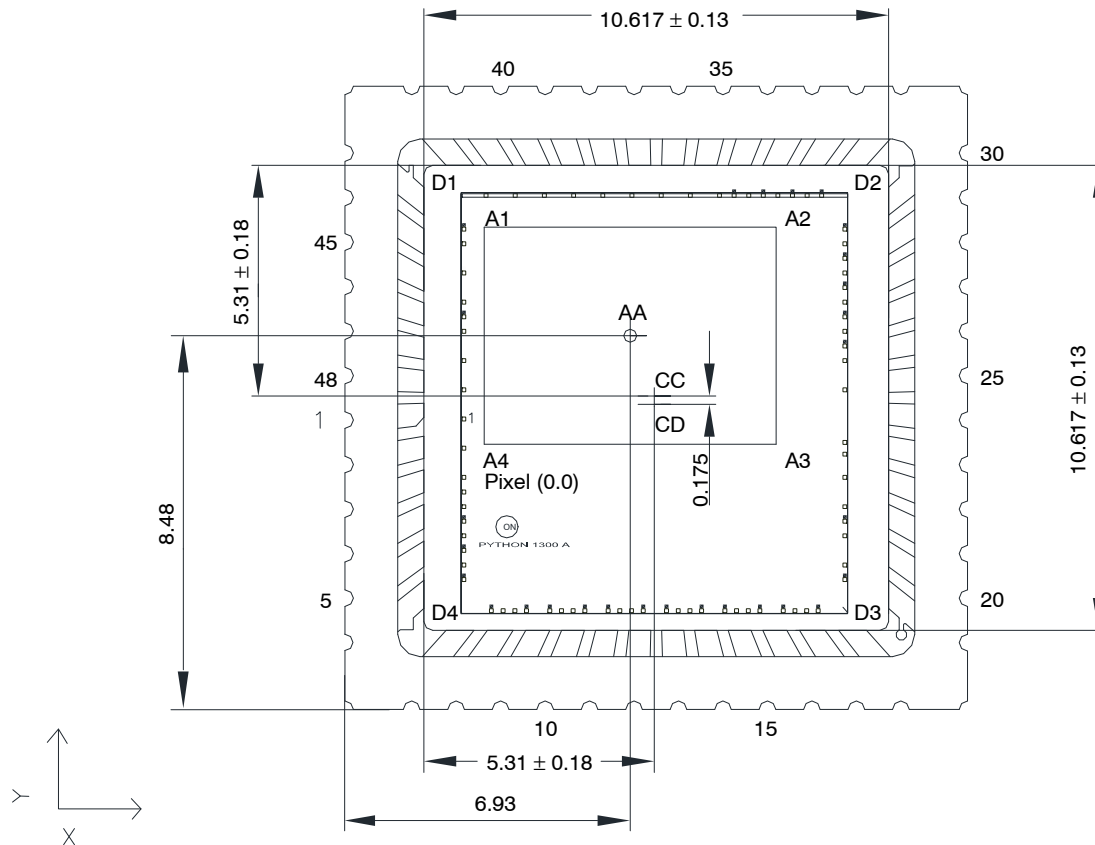
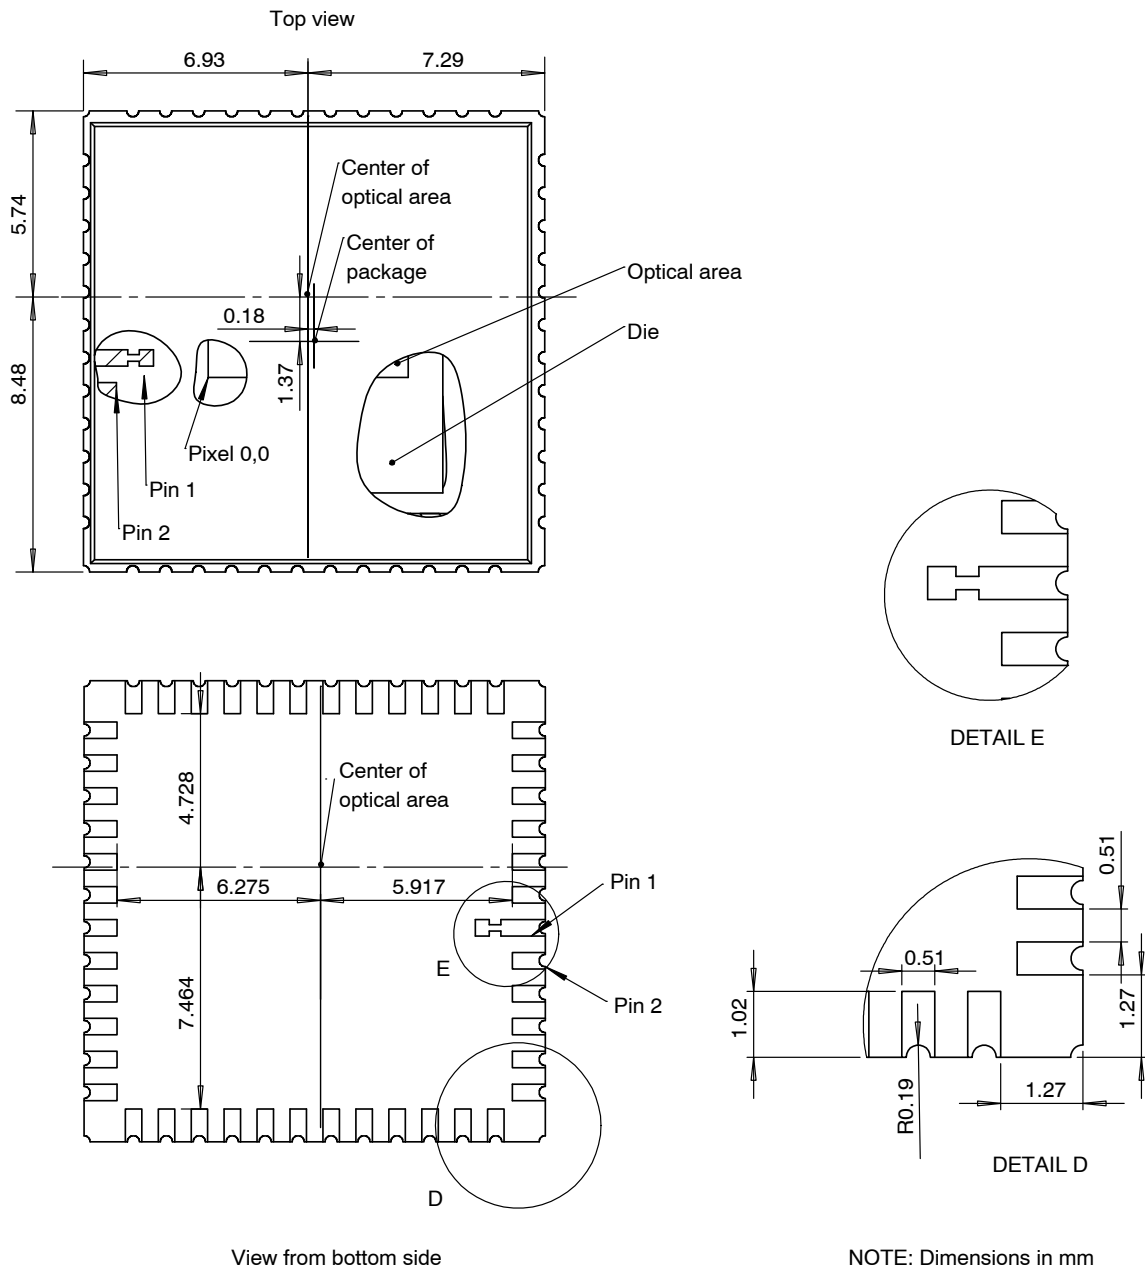

Figure 51. Graphical Representation of the Optical Center for PYTHON 1300/500/300 (1 of 2)
Figure 52. Graphical Representation of the Optical Center (2 of 2)
| Die (Refer to Figure 51 and Figure 52 showing Pin 1 reference as left center) | Die thickness | | 725 | | μm |
*Refer to Figure 51.